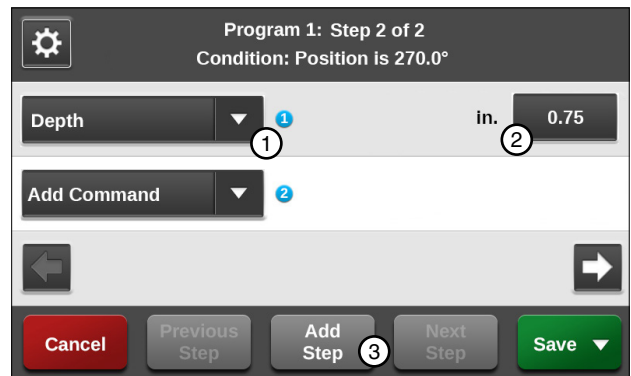

Figure 133-2 1. Depth Command 3. Add Step
7. Enter the command to be executed at this position. Refer to Figure 133-2.